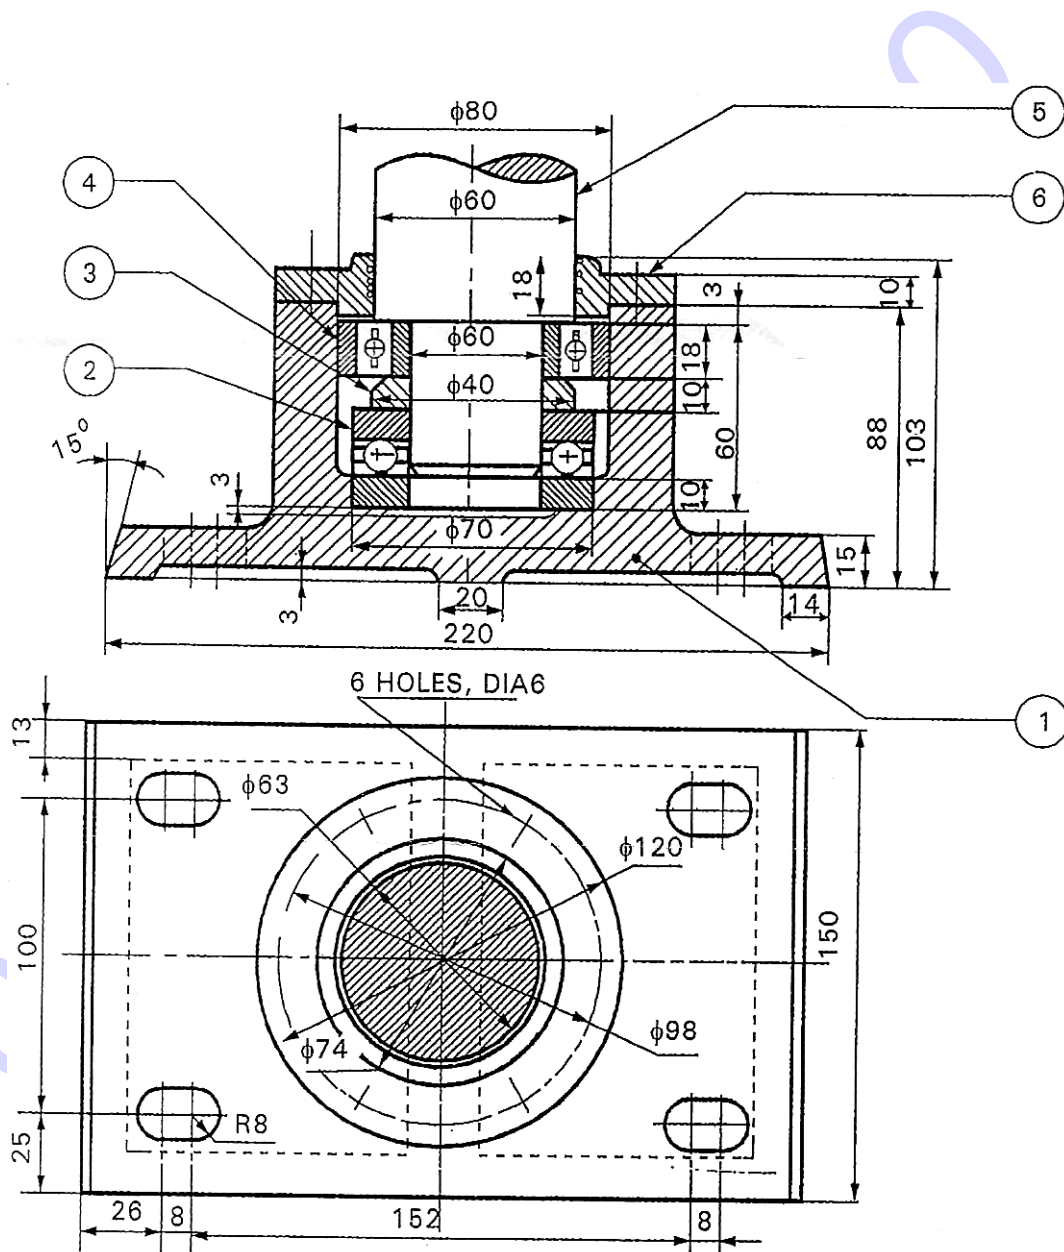

Fig. 2
6. Study the given assembly drawing of foot step bearing shown in Figure 2 :